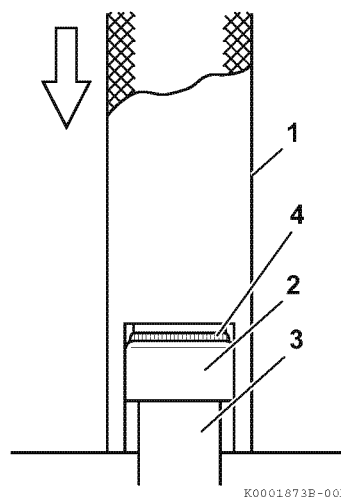

Figure 6-26
- For 3TNM72 engines, the exhaust valve stem seals are different than the intake valve stem seals and can be identified by the color of the seal spring (Figure 6-26, (4)). For 3TNM68 engines, all stem seals are the same. Ensure they are installed in the correct locations.
1. Oil the lip of the valve stem seal (Figure 6-26, (2)). Using the valve stem seal installation tool (Figure 6-26, (1)), install a new valve stem seal on each of the valve guides (Figure 6-26, (3)).